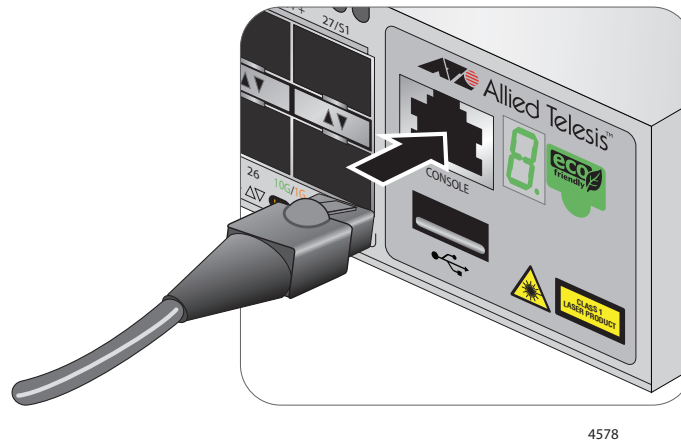

Figure 71. Connecting the Management Cable to the Console Port
1. Connect the RJ-45 connector of the management cable to the console port on the front panel of the switch, as shown in Figure 71.